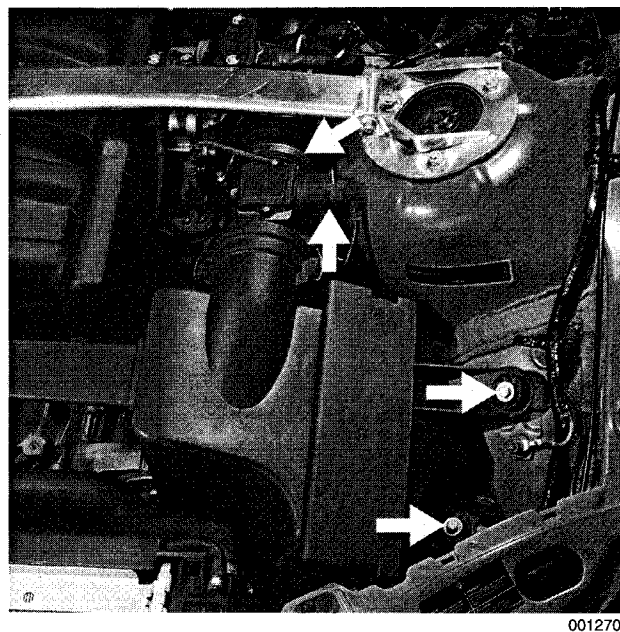

Fig. 8. Mass air flow sensor connector, air duct hose clamp, and air cleaner housing mounting bolts (arrows).
9. Unbolt and remove complete air cleaner housing with mass air flow sensor, disconnecting and labeling connectors, ducting and hoses as necessary. See Fig. 8.